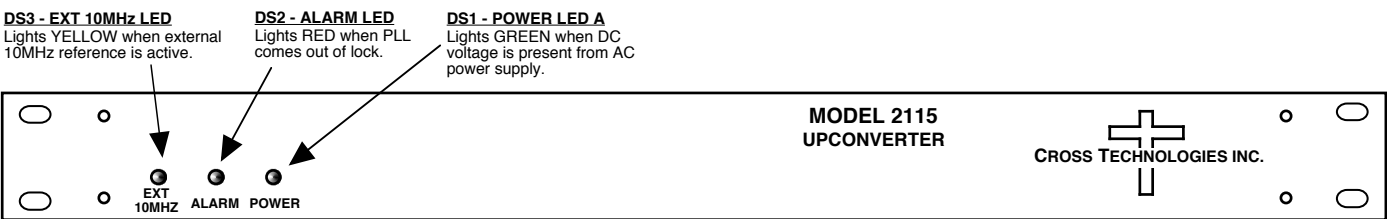

FIGURE 2.2 2115-7172-2021 Front Panel Controls and Indicators
4. Be sure DS1 (green, DC Power) is on and DS2 (red, Alarm) is off (Figure 2.2).
6. If EXT is selected or AUTO is selected and there is a 10MHz, 3 dBm signal at J2, check that DS3 (yellow, Ext 10MHz) is on (Figure 2.2).